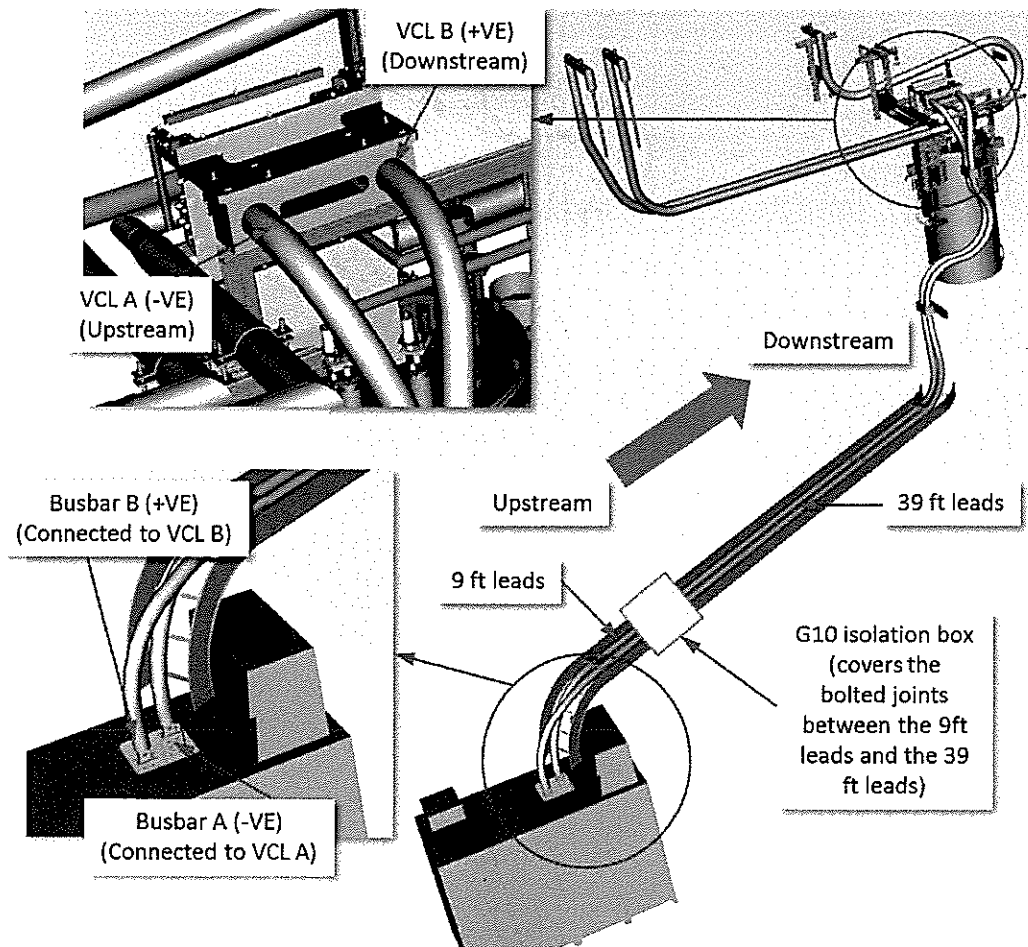

Figure 1 Water-Cooled Leads and Power Supply Bus Bar Connections
1. Refer to Figure 1 above and ensure that each water-cooled lead is connected to the correct power supply bus-bar and the correct vapor-cooled lead.